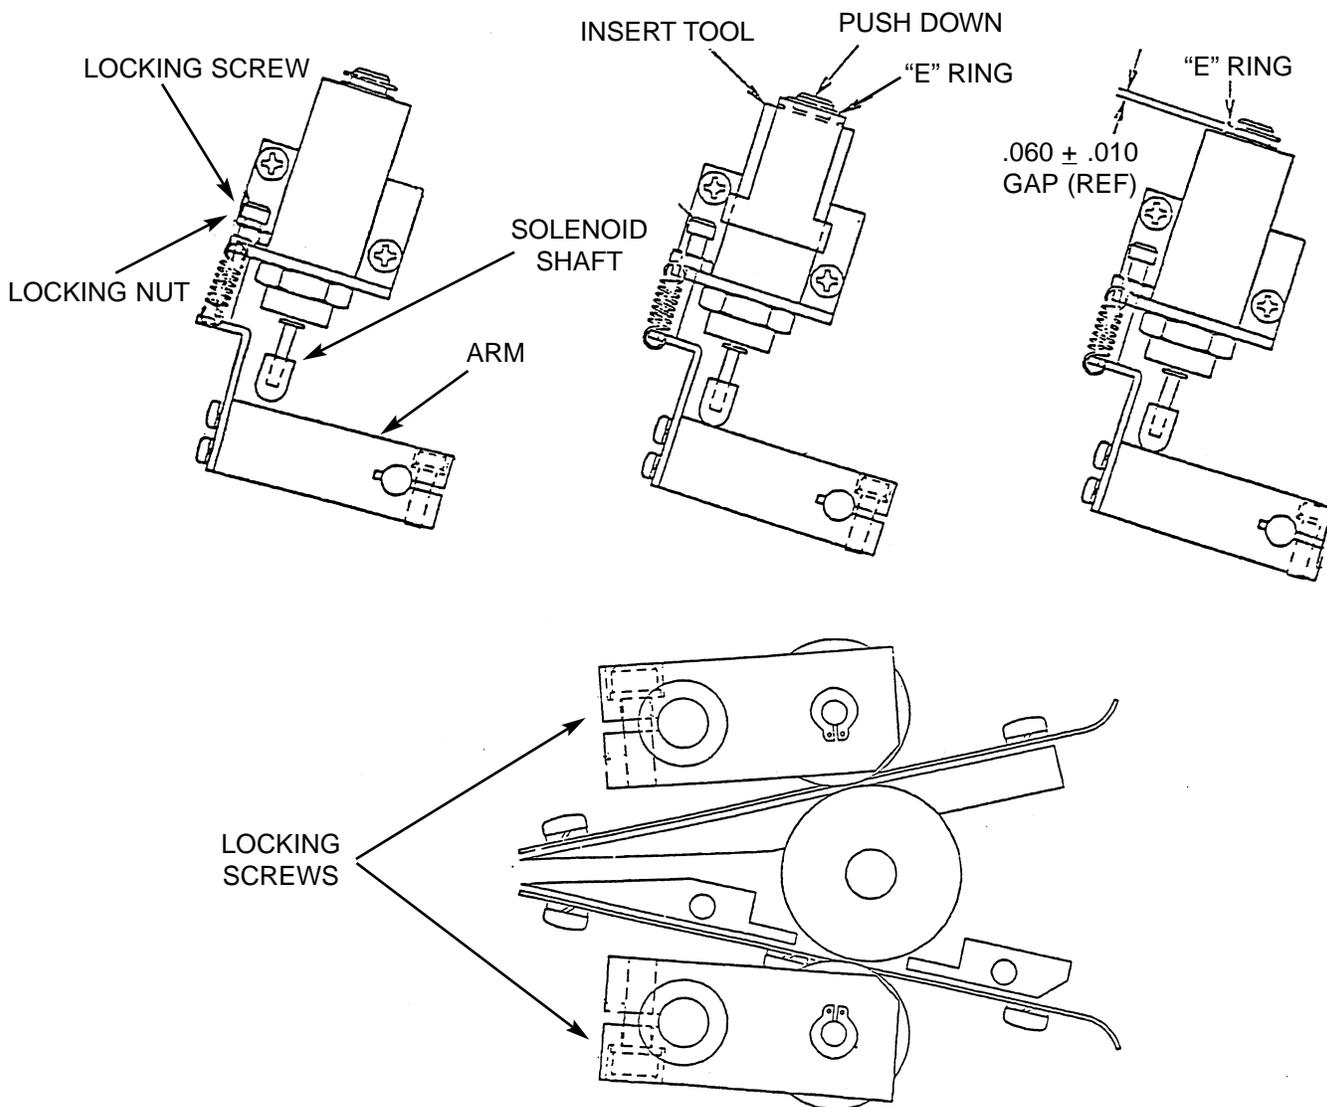

Figure 8-1
1. Upper Infeed Solenoid Adjustment. (See figure 8-1)